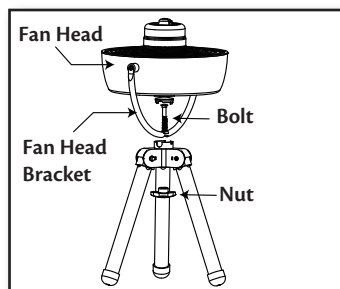

Figure 6
3. Turn the fan head perpendicular to the fan head bracket. Carefully fit the fan head bracket into the slot of the tripod adapter, making sure the hole on the fan head bracket align with the hole on the tripod adapter. Insert the bolt through the aligned holes and tighten with the nut to secure the fan head in position. (Figure 6)